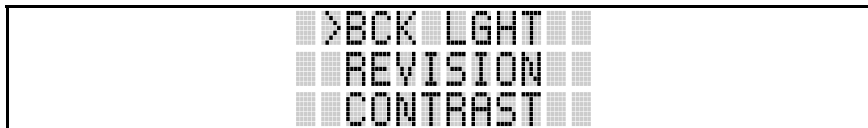

Figure 15: Backlight Menu Item
2. PRESS: \blacktriangle or \blacktriangledown until the display shows (see Figure 15):